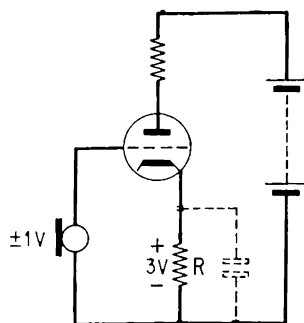

Fig. 194
Fig. 194 illustrates the use of a cathode resistor (R) to provide grid bias for an indirectly heated valve. If the anode current is 3 milliamps, what value of resistor would have to be used in the cathode to provide 3 volt grid bias? (8) A large smoothing capacitor is normally wired across this resistor so that a steady value of bias is provided. Why do we use the term 'smoothing'? (9)